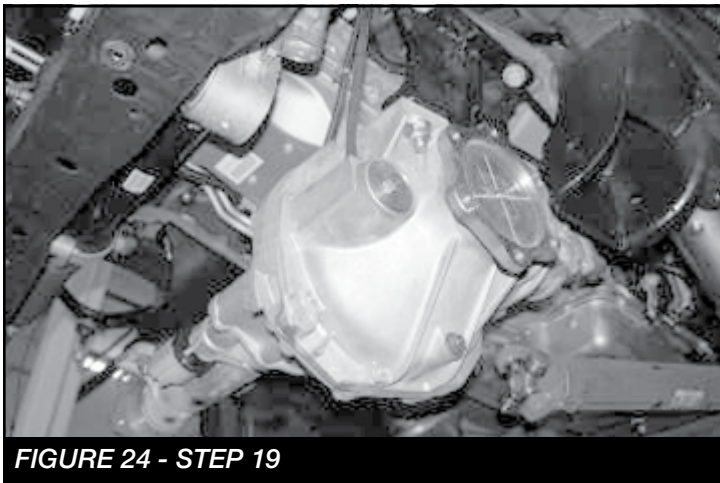

FIGURE 24 - STEP 19
19. Locate the supplied $\frac{1}{2}$ " x $1\frac{3}{4}$ " and $\frac{9}{16}$ " x $1\frac{3}{4}$ " hardware and the front diff. Install the diff onto the new drop brackets using the $\frac{1}{2}$ " hardware on the driver's side and the $\frac{9}{16}$ " on the passenger side. Torque the $\frac{1}{2}$ " hardware to 127 ft-lbs. and the $\frac{9}{16}$ " to 184 ft-lbs. Re-connect the electrical and vacuum connections back onto the diff. **(CHECK THE CLEARANCE OF THE DIFF TO THE FRAME IN SANDED AND CUT SPOTS ON THE DIFF. FOR ADAQUATE CLEARANCE TO THE FRAME AND CROSSMEMBER). SEE FIGURE 24**